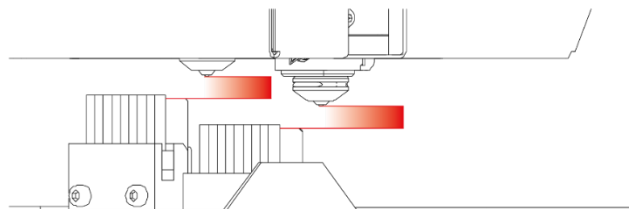

Fig. 13 Incorrectly adjusted cleaning station slats relative to the module nozzles – too long distance
1. The distance between the nozzle and the cleaning station slat is too long and the slat fails to touch the nozzle at all (Fig. 13).
- in the case shown in Fig. 13, the cleaning station should be lowered,